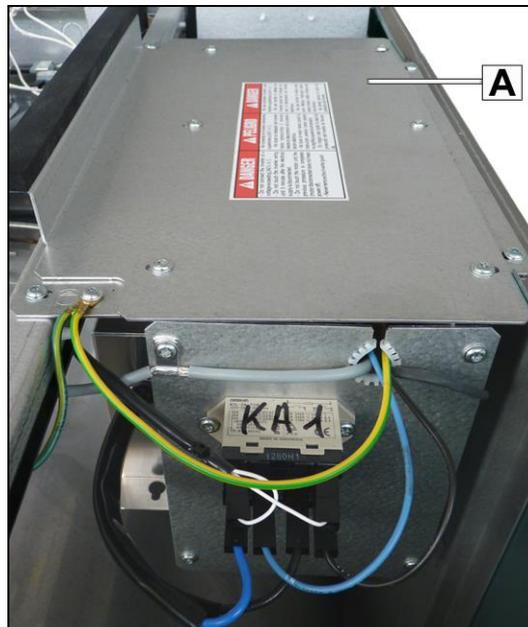

Fig. 3.15
2. Remove the cover **A** from the inverter box (Fig. 3.15).